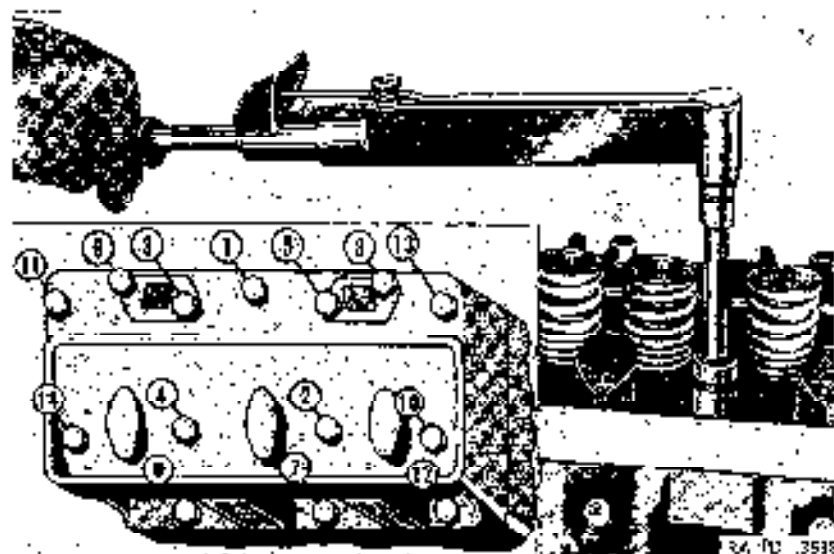
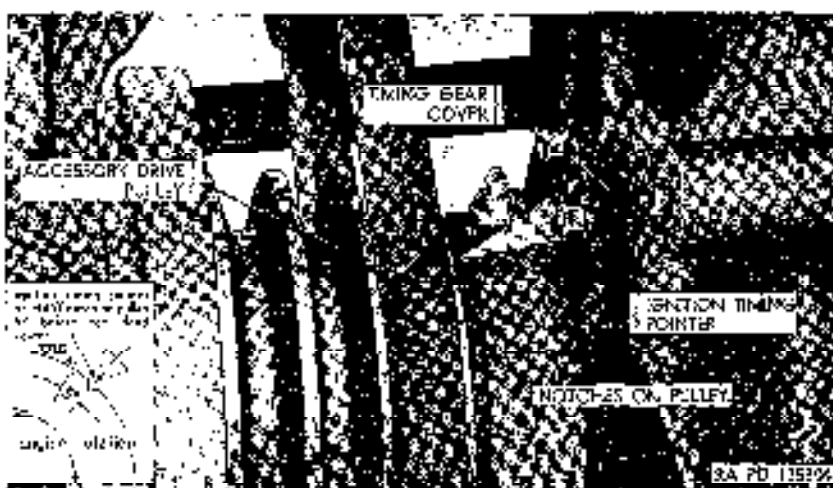

Figure 126. Cylinder head bolt tightening sequence.
Figure 128. Ignition timing indicator.
- (3) Place front and rear cylinder head assemblies in position on crankcase and install the 28 cylinder head screws (Fig. 125). Using a torque wrench, tighten the head bolts in 110 pound-foot (maximum) in the sequence shown in Figure 126.
- (4) Install water pump retaining bar and washer on stud on front end of front cylinder head, tighten nut.
- (9) Observing position of valve rocker arms, turn engine in small increments by momentarily depressing and releasing starter button until both valves (intake and exhaust) at No. 1 cylinder are closed and ignition timing pointer (fig. 128) is aligned with top dead center mark on crankshaft pulley. Adjust clearances of valves at No. 1 cylinder (par. 108). Working in firing order sequence (par. 106c), repeat the above procedure for initial valve adjustment at each remaining cylinder.
- (10) Start engine (par. 43).
- (11) After engine is thoroughly warmed up, using a torque wrench, tighten the cylinder-head bolts to 110 pound feet (max) in the sequence shown in figure 126.
- (12) With engine idling, check valve clearance and adjust, if necessary (par. 108).
- (13) Install valve rocker arm covers (par. 108).
- (14) Before stopping engine, make final check for leaks in cooling and exhaust systems.
- (8) Install air-compressor-to-governor line (T, fig. 126).